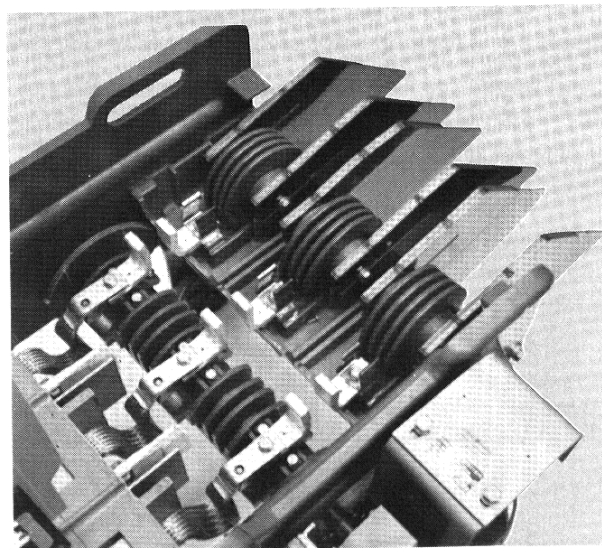

Fig. 18. Contactor open with pole pieces rotated out of position
2. Rotate the pole pieces out of position as shown in Fig. 18.